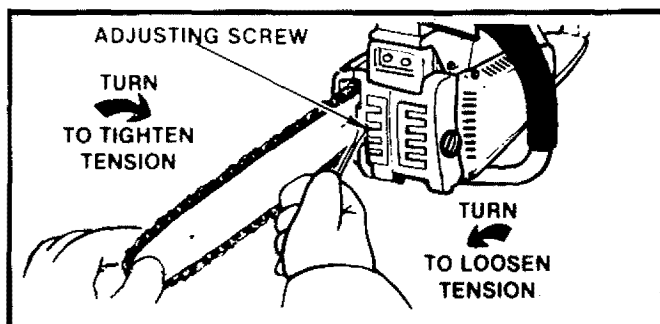

Figure 9
2. Turn the adjusting screw counterclockwise  to move the adjusting pin almost as far as it will go to the rear. Figure 9.
7. Turn the adjusting screw clockwise until the chain is snug in the guide bar groove. Figure 9.